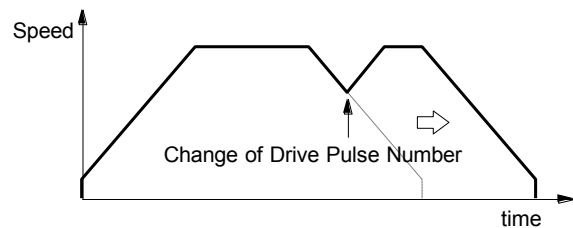
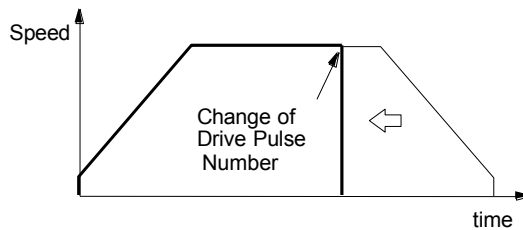

Fig. 2.1-7 Change of Drive Pulse Number in Deceleration
Fig. 2.1-8 Changing Drive Pulse Number Less than Output Pulse Number
In acceleration/deceleration driving, if the rest of output pulses become less than the pulses at acceleration, and the drive pulse number (TP) is changed during deceleration, the driving accelerates again (Fig. 2.1-7). And if the output pulse number of changed drive pulse number (TP) is less than the number of pulses already output, the driving stops immediately (Fig. 2.1-8). In S-curve acceleration/deceleration driving, if the drive pulse number (TP) is changed during deceleration, the S-curve profile cannot be exactly tracked.